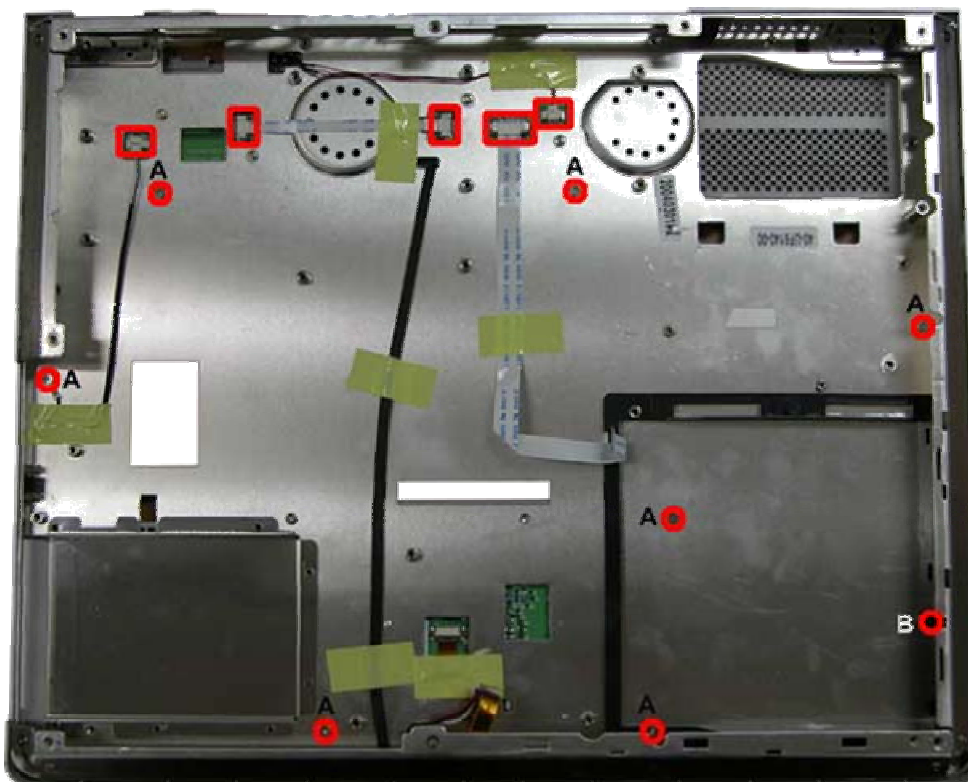

Fig. 32 Top Shield
2. Unscrew all screws and disconnect all cable on the Top Shield as shown in Fig. 32